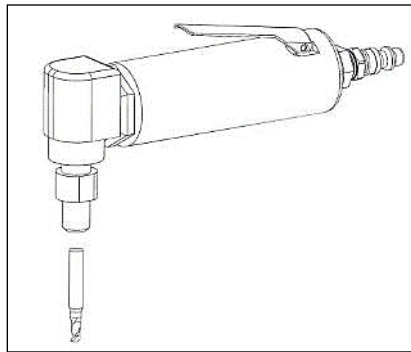

Figure 3. GFR-Bit Installation
- 3.1.3. Attach the GFR-Bit to the pneumatic 90 degree grinder by inserting the bit into the collet until it stops. Ensure the GFR-Bit is properly secured in the collet. See **Figure 3**.